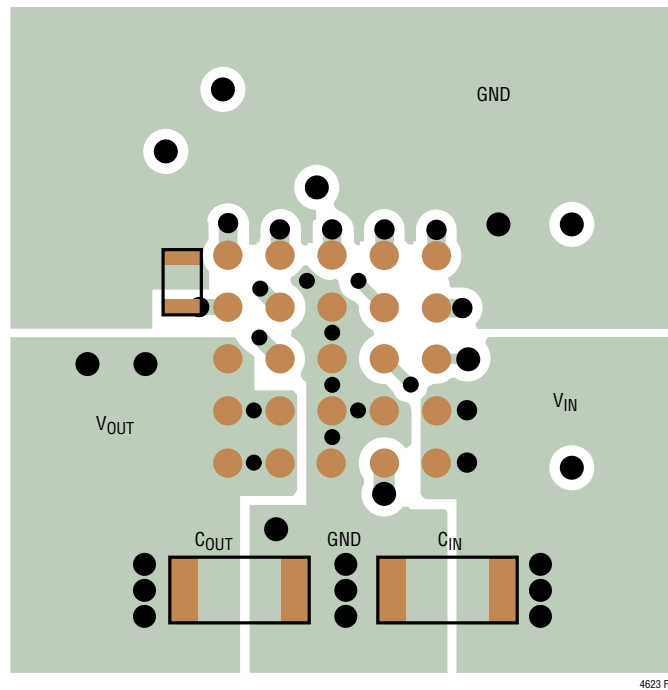

Figure 23. Recommended PCB Layout
- Figure 23 gives a good example of the recommended layout.